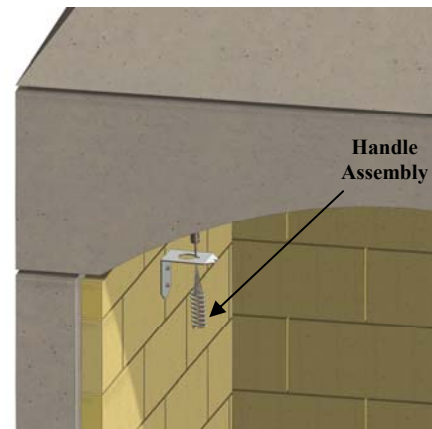

Figure 29. Bracket and Handle Assembly
D. Insert the pull cable through the bracket and adjust the length per damper manufacturer's instructions. Attach handle assembly to the bracket and check damper for proper operation. See Figure 29.